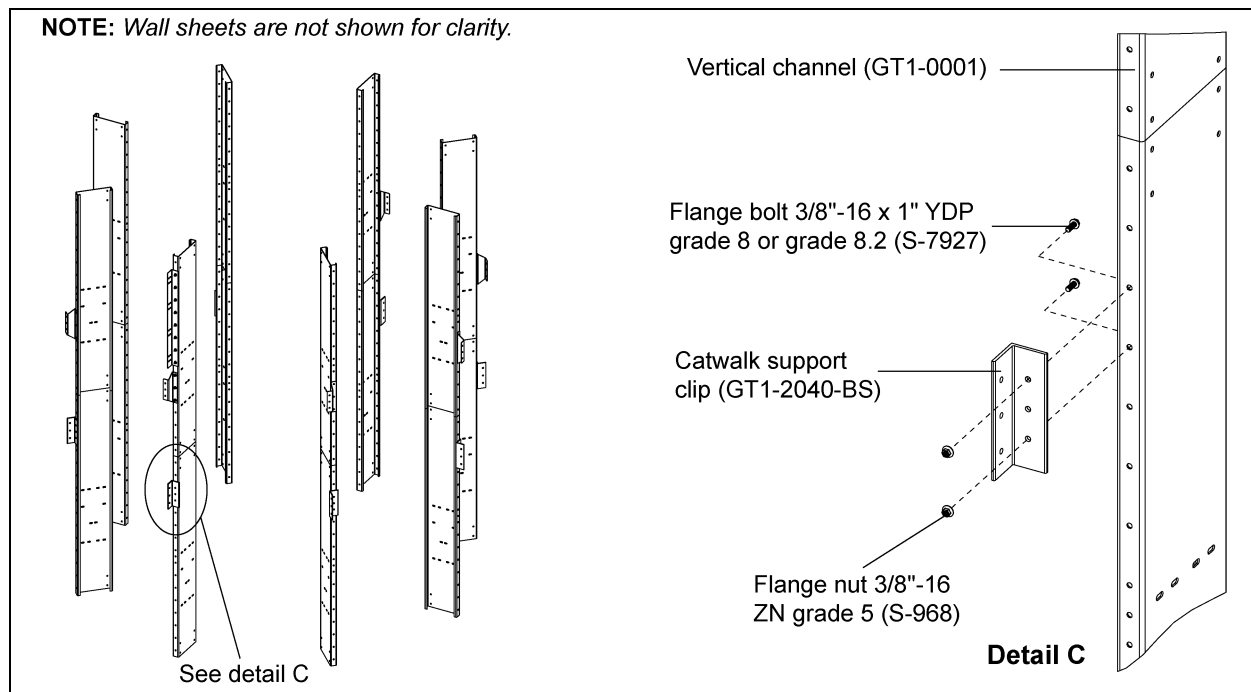

Figure 4E
1. Install catwalk support clips (GT1-2040-BS) to all vertical channels (GT1-0001). Support clip can be installed on each vertical channel as the wall sheets are installed using 3/8"-16 x 1" YDP grade 8 or grade 8.2 bolts (S-7927) and 3/8"-16 ZN grade 5 nuts (S-968). *(See Figure 4E.)*